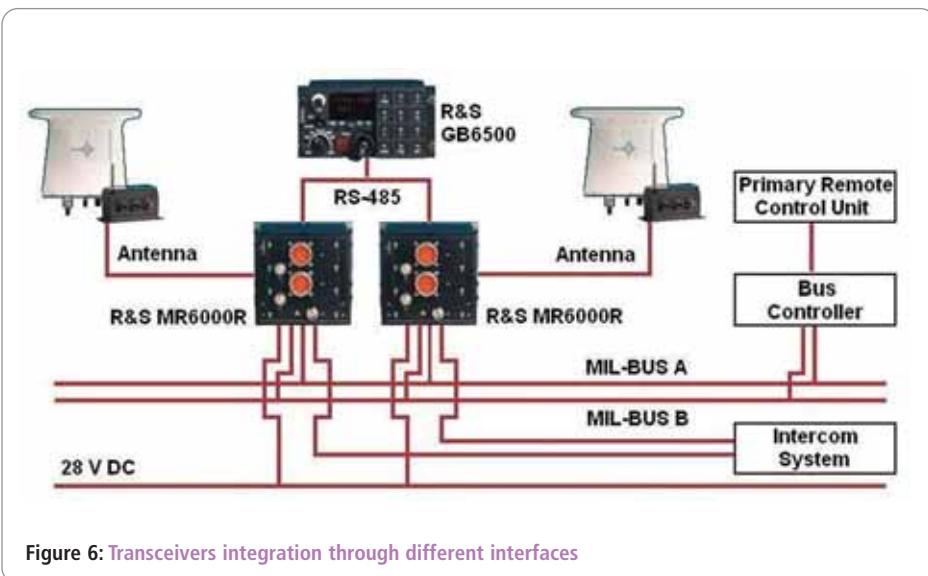

Figure 6: Transceivers integration through different interfaces
2. The M3AR family can be flexibly integrated into an aircraft, via the MIL-STD-1553B data bus, RS-485, ARC-164 or front panel control, as shown in Figure 6. The MR6000L/MR6000R with a local control panel is easily installed directly in the cockpit.